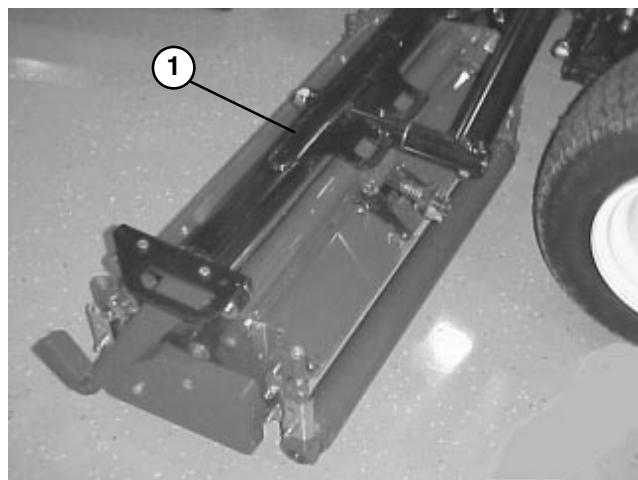
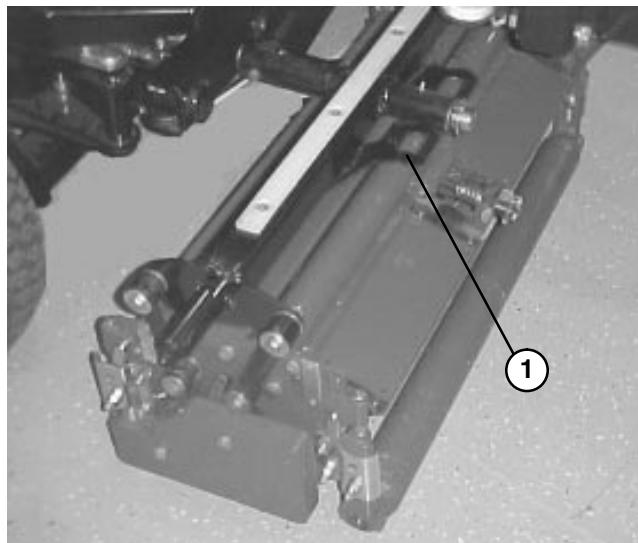
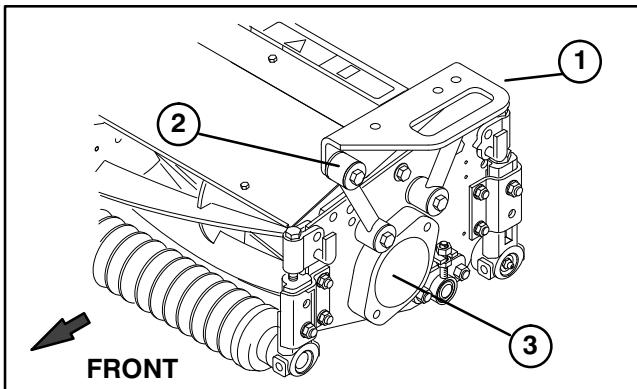

Figure 15
Figure 16
Figure 17
MOUNT CARRIER FRAMES TO CUTTING UNITS (Fig. 15 – 17)
2. Position a front carrier frame (Fig. 15) onto each front cutting unit. Align mounting holes with mounting links as shown in figure 17.
3. Position rear carrier frame (Fig. 16) onto rear cutting unit, aligning mounting holes with mounting links as shown in figure 17.
4. Secure each mounting link to carrier frame with a 3/8–16 x 2–1/4" lg capscrew, (2) flatwashers and a locknut, as shown in figure 17. Position a washer on each side of link when mounting. Torque to 31 ft-lb.
3. Remove shipping plug from bearing housings on remaining cutting units (Fig. 17).